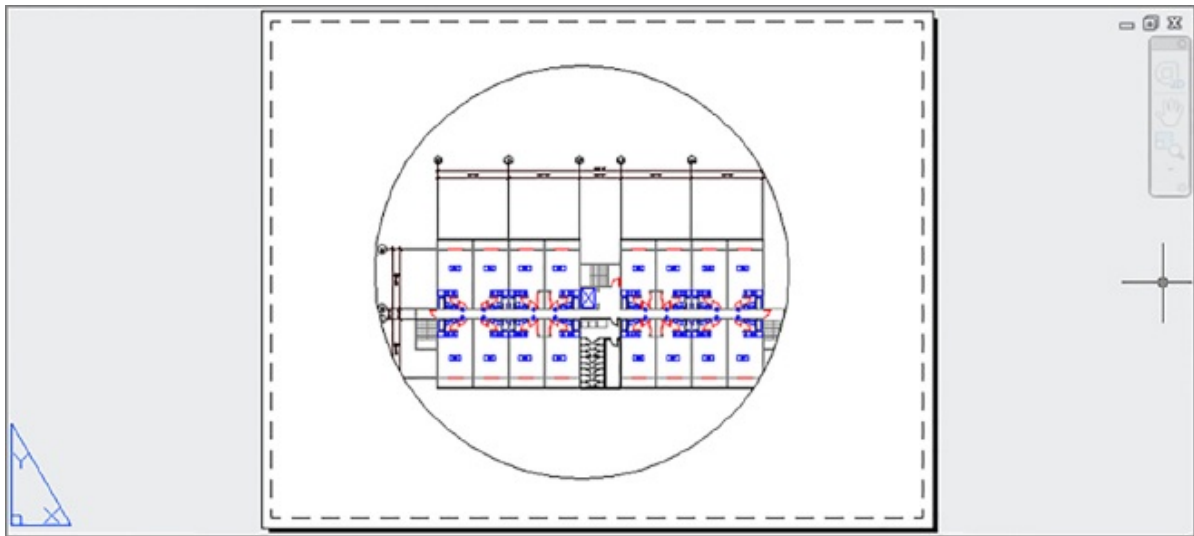

FIGURE 15.19 A circular viewport
4. Click the circle. The plan appears inside the circle, as shown in Figure 15.19.